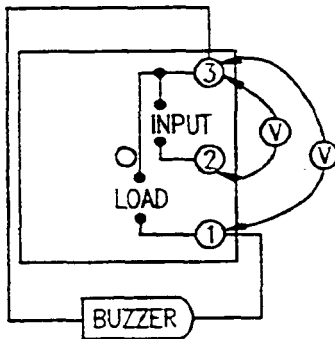

Figure 5-19. 3-Second Timer and Buzzer
4. Refer to Figure 5-19, and connect the voltmeter leads across timer terminals 1-3 (LOAD).
6. Refer to Figure 5-19, and connect the voltmeter leads across timer terminals 2-3 (INPUT). Check for 120 VAC across the test points.